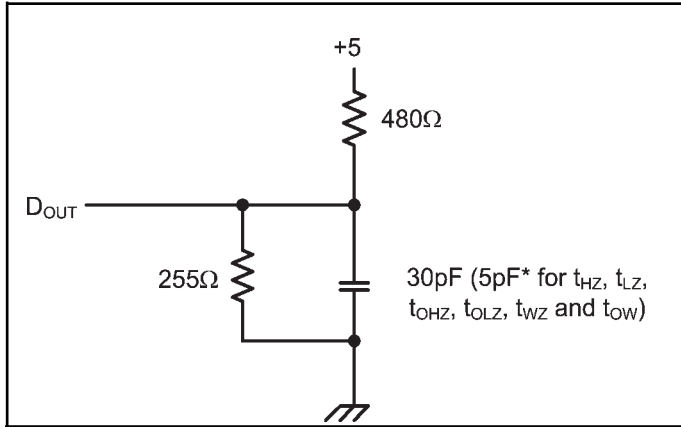

Figure 1. Output Load
- 8. Transition is measured  $\pm 200\text{mV}$  from steady state voltage prior to change, with loading as specified in Figure 1.
Output Load	See Figures 1 and 2